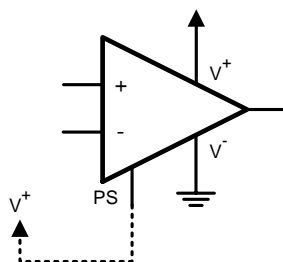

Figure 21. Low Power Mode
The LMV422 is a dual rail-to-rail output amplifier that can be switched between two active power modes. The power select pin (PS) provides a method to optimize the power consumption, bandwidth and short circuit current. When the PS pin is set to greater than 4.5V (Figure 21) or left open, the LMV422 is in Low Power Mode operating at a bandwidth of 27 kHz and is consuming only 2 μ A of supply current per channel. Setting the PS pin to less than 0.5V, switches the LMV422 to Full Power Mode with a bandwidth of 8 MHz and supply current of 400 μ A per channel (Figure 23b). The PS pin should not exceed the supply voltage. The active power modes of the two amplifiers can be set independently.